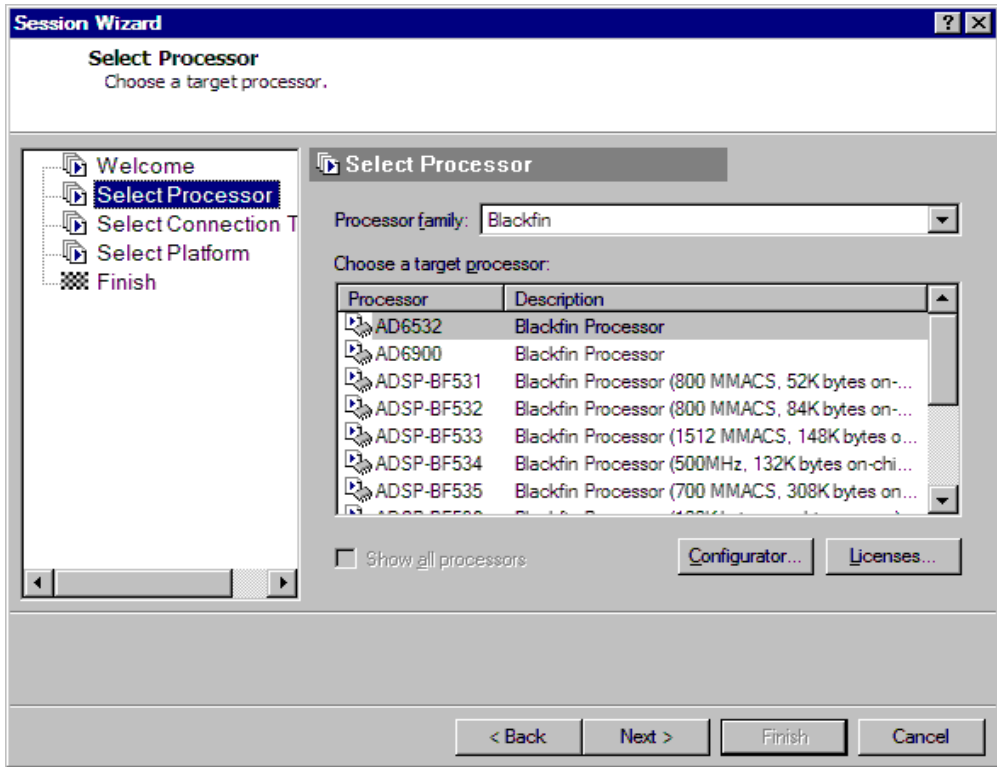

Figure 2-7. Session Wizard
- When you need to connect to a debug session, click the **Connect to Target** toolbar button or choose from the available sessions listed under **Select Session** in the **Session** menu. To create a debug session, select **New Session** from the **Session** menu. This will launch the **Session Wizard**, which is covered in more detail later. See Figure 2-7.
Click **OK** to create a new session. This will launch the **Session Wizard**, shown in Figure 2-7.